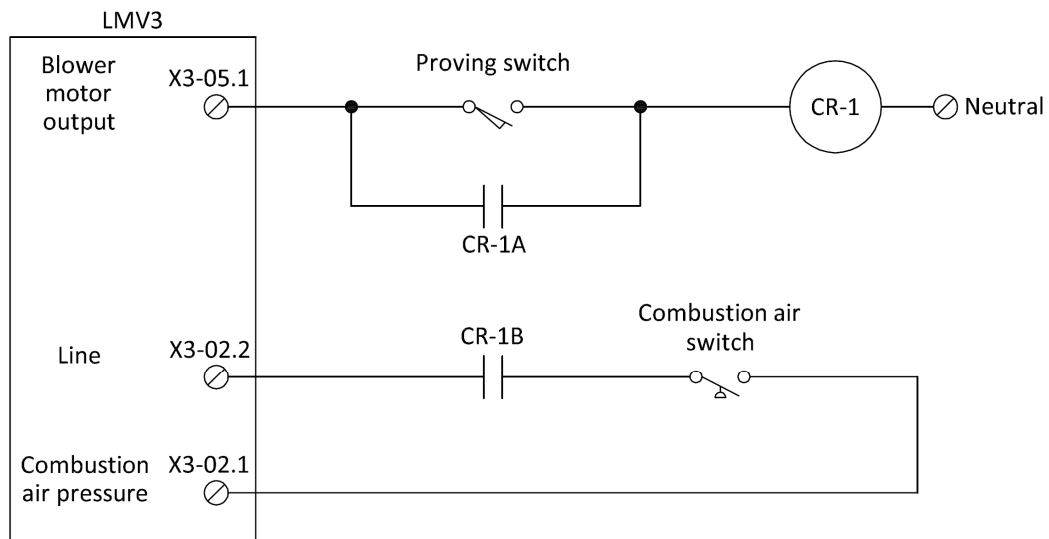

Figure 13: LMV3 Purge Proving Wiring Diagram
1. Wire the LMV3, proving switch, and two-pole relay as shown below in Figure 13.